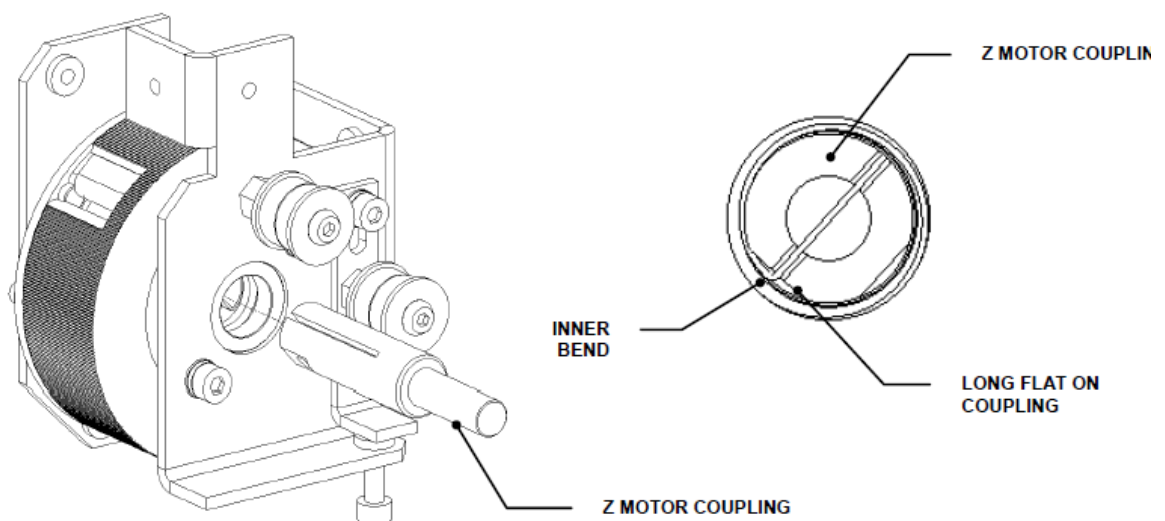

Figure Z-19: Removing the Z Motor Coupling
3. Remove the Z Motor Coupling which (Figure Z-19).